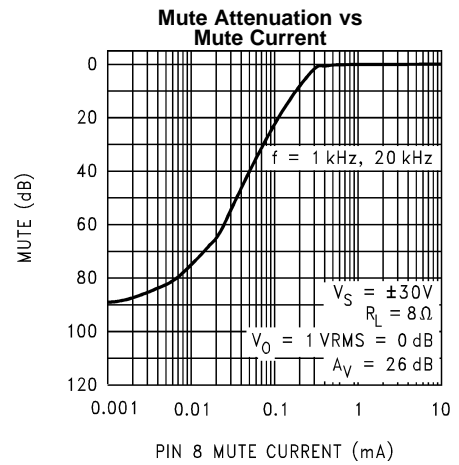

Figure 32.
12. $R_M$	Mute resistance set up to allow 0.5 mA to be drawn from pin 8 to turn the muting function off. → $R_M$ is calculated using: $R_M \leq ( V_{EE}  - 2.6V)/I_8$ where $I_8 \geq 0.5$ mA. Refer to <a href="#">Figure 32</a> in <a href="#">Typical Performance Characteristics</a> .
**Mute Function:** The muting function of the LM3876 allows the user to mute the music going into the amplifier by drawing less than 0.5 mA out of pin 8 of the device. This is accomplished as shown in the Typical Application Circuit where the resistor  $R_M$  is chosen with reference to your negative supply voltage and is used in conjunction with a switch. The switch (when opened) cuts off the current flow from pin 8 to  $V^-$ , thus placing the LM3876 into mute mode. Refer to Figure 32 in Typical Performance Characteristics for values of attenuation per current out of pin 8. The resistance  $R_M$  is calculated by the following equation: